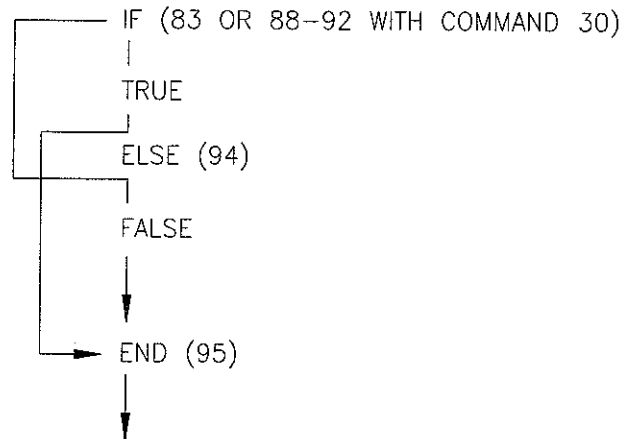

Figure 3-1 If Then/Else Execution Sequence
Program Control Instructions can be used for 'If then/else' comparisons. When Command 30 (Then do) is used with Instructions 83 or 88-92, the If instruction is followed immediately by instructions to execute if the comparison is true. The Else instruction (Instruction 94) is optional and is followed by the instructions to execute if the comparison is false. The End instruction (95) ends the 'If then/else' comparison and marks the beginning of the instructions which are to be executed regardless of the outcome of the comparison (see Figure 3-1).